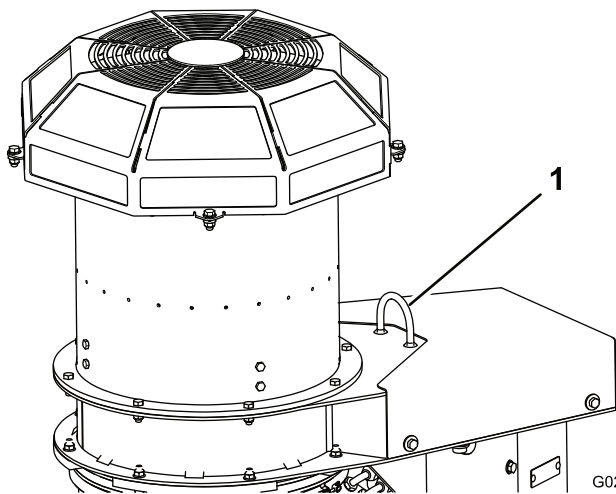

**Figure 6**
7. Remove the snapper pin securing the jack-stand tube to the storage tube (Figure 6). Remove the jack assembly from the storage position.